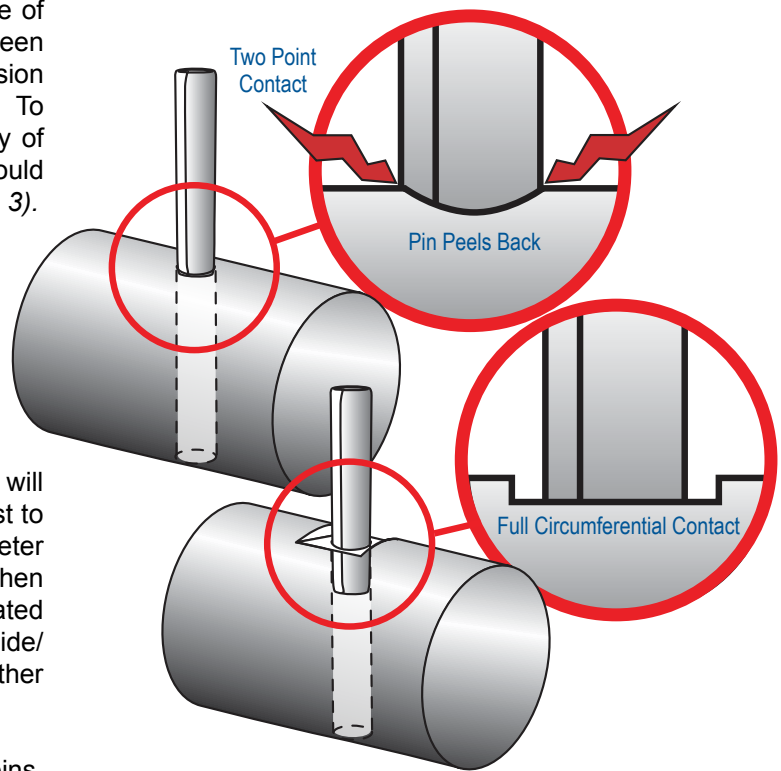

Figure 3
- Installing a cylindrical pin into a hole on the surface of a cylindrical object leads to two point contact between the pin and the hole. This concentrates the compression force on only two points of the circumference. To increase the contact surface between the periphery of the hole and pin, and to ease installation, a flat should be placed on the exterior surface of the hole (*Figure 3*).